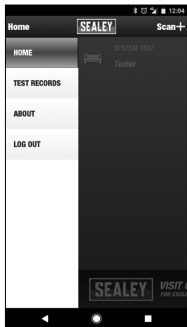

fig.25
- 7.5.1. From the HOME screen, scroll down and select "TEST RECORDS". (fig.25)